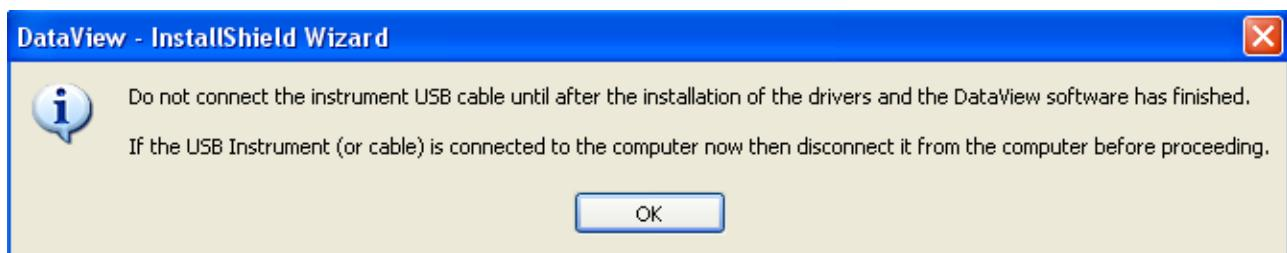

Figure 1-3
10. If the instrument chosen requires the use of a USB port (the case here), an information window like that shown in figure 1-3 may appear.